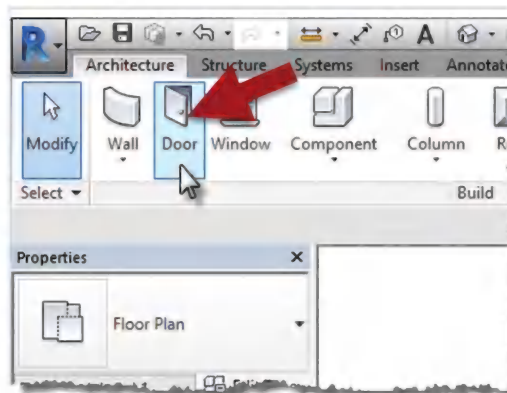

FIGURE 2-2.1 Door tool
2. Select **Architecture** → **Build** → **Door** tool on the *Ribbon* (Figure 2-2.1).